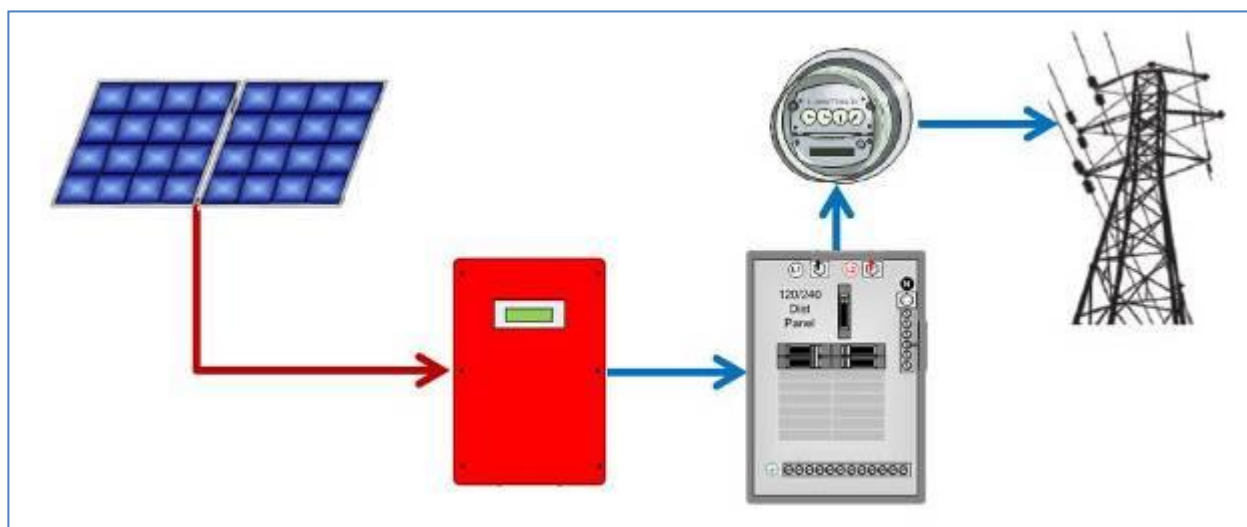

Figure 1 – Typical Grid Tie Inverter Utility Connection
The basics: As mentioned previously, by far the most common configuration of a PV generation system is an array of PV modules feeding a grid-tied (GT) inverter that converts the DC power to AC power, then fed through the building’s service panel and on out to the electrical grid (see Figure 1). The grid acts like a battery and the renewable energy is placed on the grid for collective consumption, which, in turn, reduces generation other sources. The grid-as-a-battery is a great concept, until it’s no longer there – the grid-tied inverter requires the grid to stay powered per the UL1741 requirement for safety reasons. Without grid power to keep the GT inverter operating, the available PV power just sits on the roof unused. And during an outage, a home or business with PV electricity potentially available is in the dark just like everyone else.